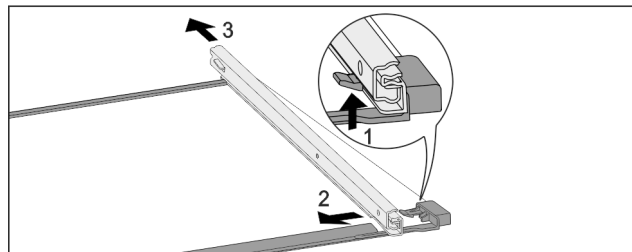

Fig. 107 Glass shelf with rails
- Push up front click-in hooks. Fig. 107 (1)
- Move the pull-out rails to the side Fig. 107 (2) and to the rear Fig. 107 (3).